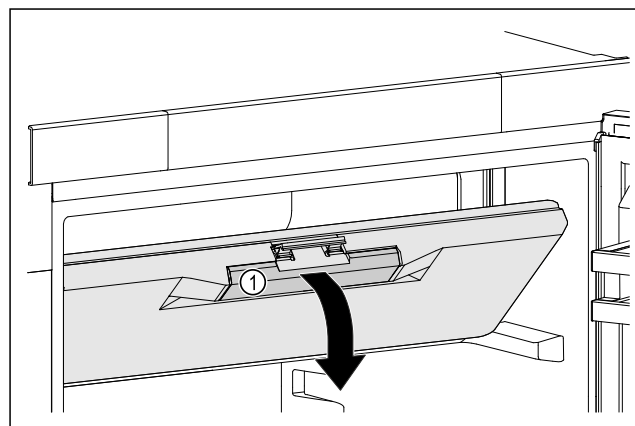

Fig. 52
- ▶ Hold the freezer compartment door by the recessed handle Fig. 52 (1).